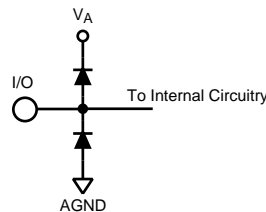

Figure 2.
- (1) The inputs are protected as shown below. Input voltage magnitudes above V_A or below GND will not damage this device, provided current is limited per Note 4 of the Absolute Maximum Ratings Table. However, errors in the A/D conversion can occur if the input goes above 2.6V or below GND as described in the Operating Ratings section. See Figure 2.
- (2) With a full scale differential input of $2V_{P-P}$, the 12-bit LSB is $488\text{ }\mu\text{V}$.
- (3) Typical figures are at $T_A = 25^\circ\text{C}$ and represent most likely parametric norms at the time of product characterization. The typical specifications are not ensured.
- (4) This parameter is specified in units of dBFS - indicating the value that would be attained with a full-scale input signal.
- (2) With a full scale differential input of $2V_{P-P}$, the 12-bit LSB is 488 μV .
- (2) With a full scale differential input of $2V_{P,P}$, the 12-bit LSB is 488 μV .
- (2) With a full scale differential input of $2V_{P-P}$, the 12-bit LSB is $488\ \mu\text{V}$.
- (4) This parameter is specified by design and/or characterization and is not tested in production.